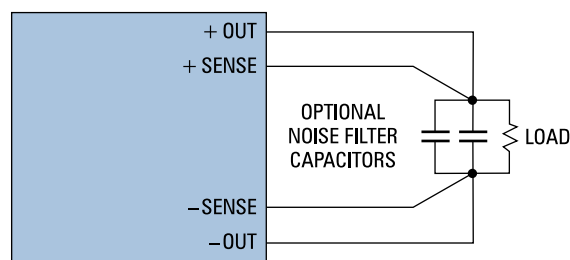

Figure 6a: Remote sense implementation showing the remote sense leads and filter capacitors connected at the point of load.
The remote sense terminals must always be connected, either to the output terminals or to the load. Connect -SENSE to -OUT at the load and +SENSE to +OUT at the load as shown in Figure 6a.
To reduce noise susceptibility, parallel an electrolytic capacitor and small ceramic capacitor across the remote sense terminals where they are connected to the load as shown in Figure 6a. (Tantalum may be used in lieu of electrolytic capacitors) Please refer to Table 6-1 for recommended values.
- (b) Use noise filter capacitors connected across the remote sense leads at the load. See Figure 6a and Table 6-1 for further information.